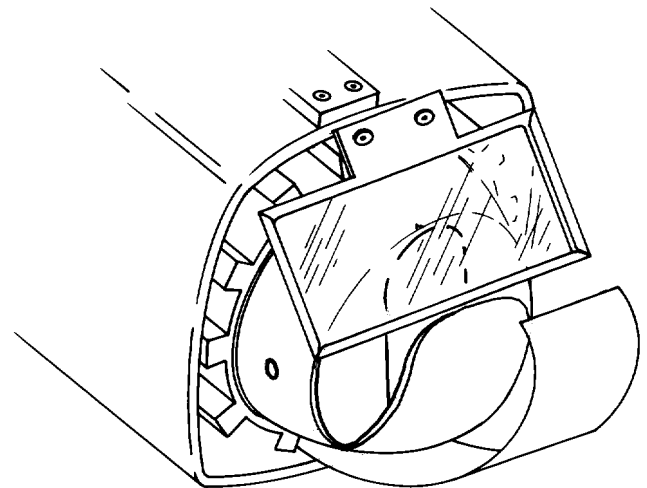

Figure 10. RG-6 Reflector
- b. RG-6. Used for heating solder termination sleeves and shrinking large-diameter tubing. Has a 3/4 inch wide aperture and has to be ordered separately (Figure 10).